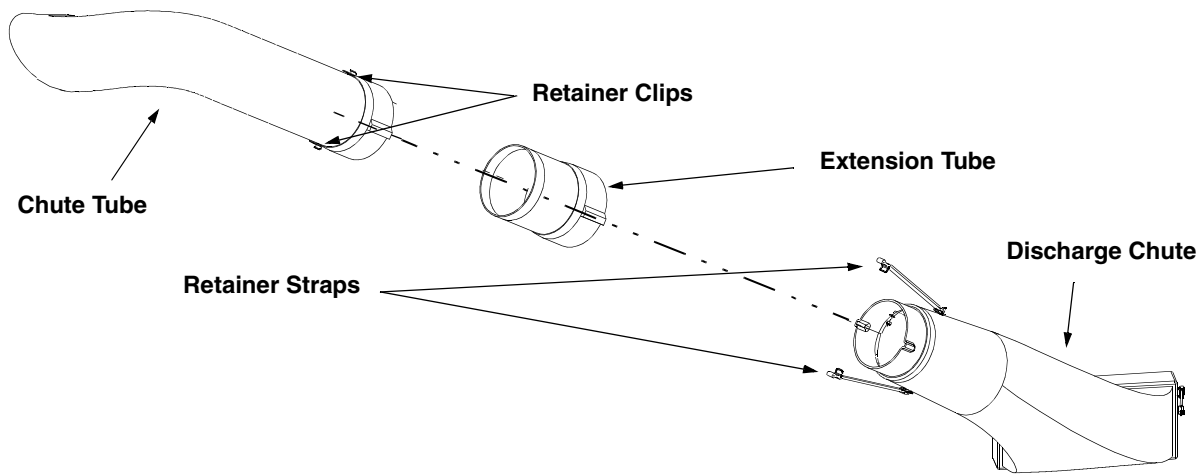

Figure 9
4. Insert the upper end of the chute tube into the hole in the cover assembly, then insert the extension tube between the discharge chute and the chute tube as shown in Figure 9.
5. Secure by placing the ends of the retainer straps on the discharge chute over the clips on the chute tube. See Figure 9.